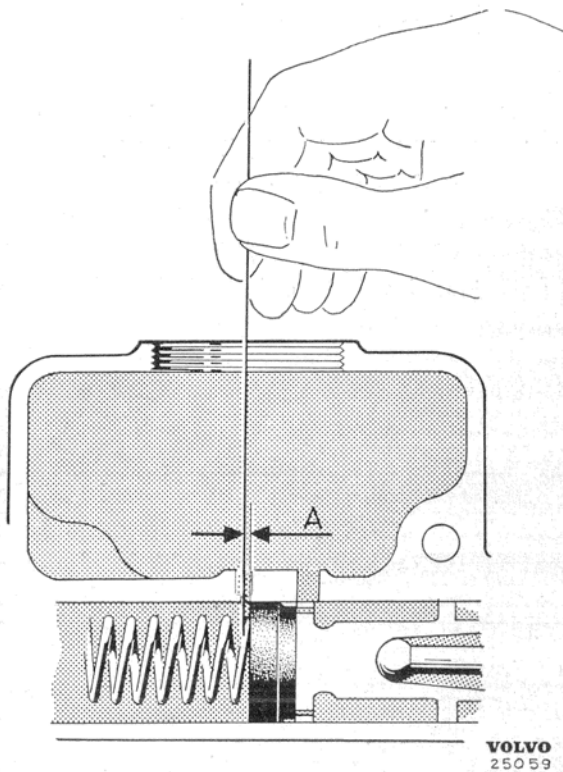

Fig. 23. Checking equalizing hole.
3. Place the thrust-rod (4) in plunger (8) and pull rubber cover (5) over the shoulder on master cylinder. Fit the three-way union (1) with brake contact.
4. Check that the equalizing hole is clear by pushing down a 0.5 mm (0.02") wire through the hole (Fig. 23). It should then be possible to press the plunger in about 0.5 mm (0.02") (A, Fig. 23) before the wire is gripped. Be careful to see that the seal is not damaged. If the equalizing hole is not clear, this usually means that the master cylinder has been assembled wrongly.